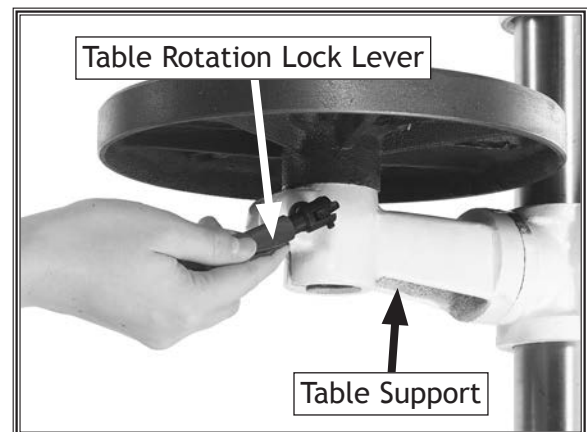
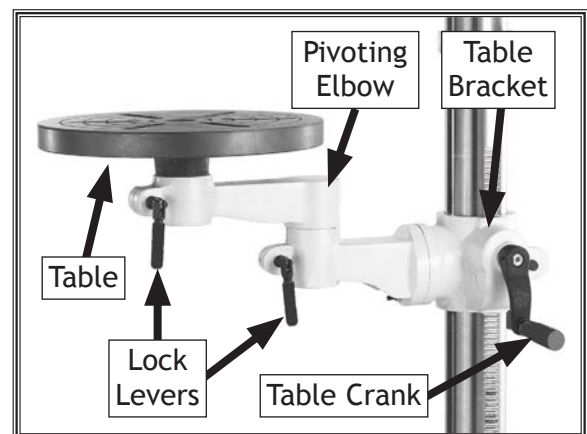

Figure 32. W1669 table components.
Figure 33. W1670 table components.
The Model W1669 table can be adjusted for height, angle, and location (see **Figure 32**). The W1670 table can also be adjusted for distance from column and rotation (see **Figure 33**).
1. **(W1670 Only):** Turn the locating pin nut (see **Figure 33**) in a clockwise direction. This will draw the locating pin out of the casting. Once loose, pull out the pin and nut, and set them in a safe place until needed.
1. Loosen the lock lever(s) located under the table (see **Figure 33**). Rotate the table the desired amount.
1. Loosen the lock lever located at the pivoting elbow of the table support (see **Figure 33**).